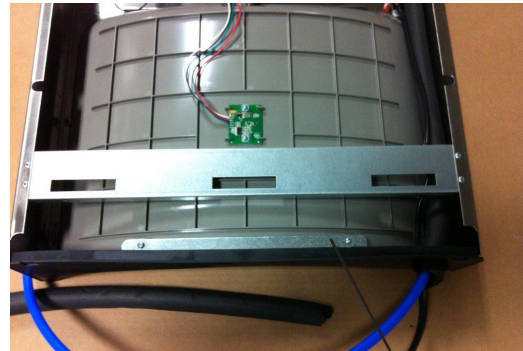

Fig. 9
- 6) **Install gasket on bottom of bottle filler tower** with gasket support bracket & (2) screws (See Fig 9).